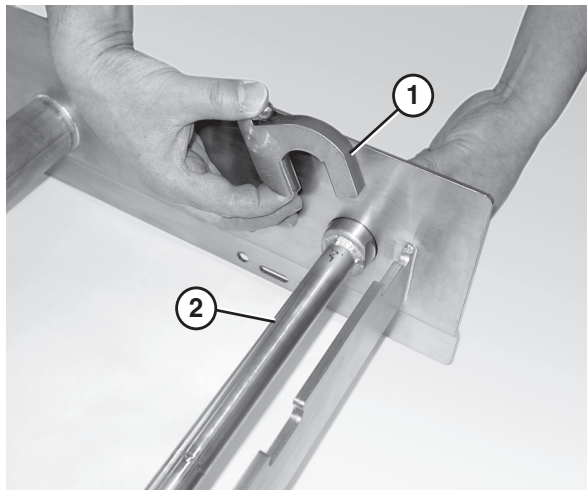

Figure 13
2. Attach the key stops (Figure 13, item 1) to the tip up shaft (Figure 13, item 2). The rounded end of the key stop should face the tail.